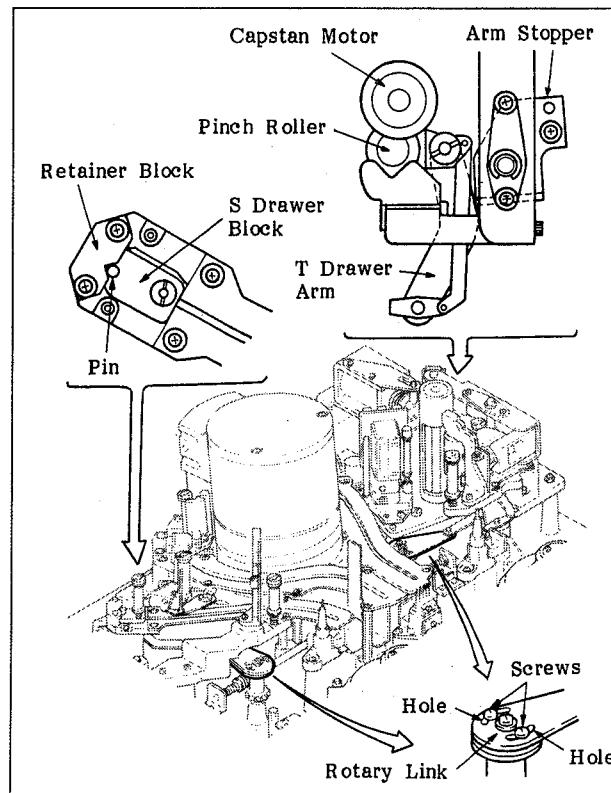

Fig. 6-98 Adjustment of the Position of the Rotary Link
- b. Press the [F3] (C), [4], [SET], [F6] (F), [2], [SET], and [C] keys on the control panel in that order to set the machine in the threading status without loading the cassette tape.
- g. Press the [F6] (F), [2], [SET], and [C] keys on the control panel in that order to set it in the unthreading status.
- i. Check that the S drawer block pin touches the retainer block and the T drawer arm touches the arm stopper at the same time, as shown in Figure 6-98. If they do not, loosen the two screws that hold the rotary link on the T drawer arm side and adjust the position of the rotary link.